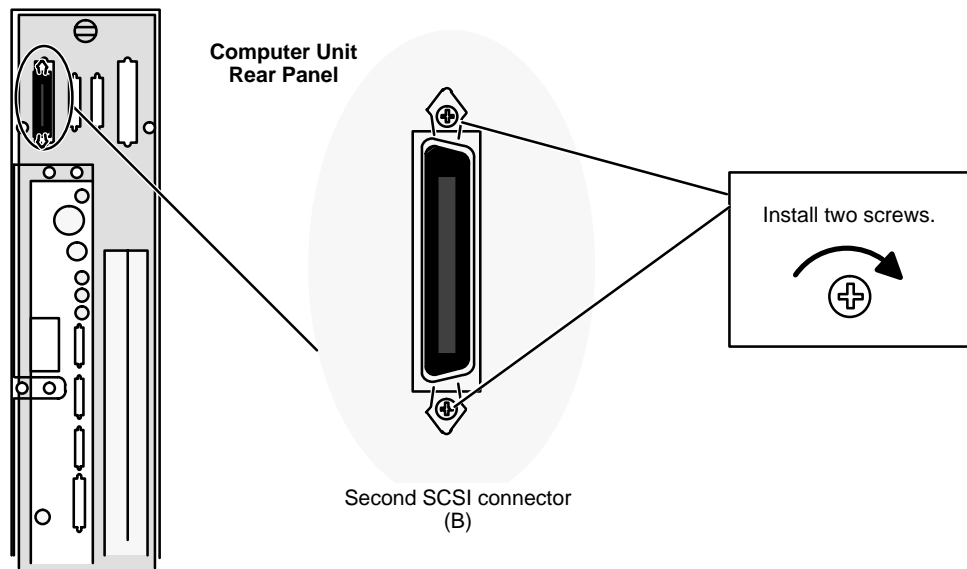

Figure 9-17 Installing the SCSI B Connector
5. Secure the SCSI cable's 50-pin CHAMP connector to the computer unit bulkhead as shown in Figure 9-17.